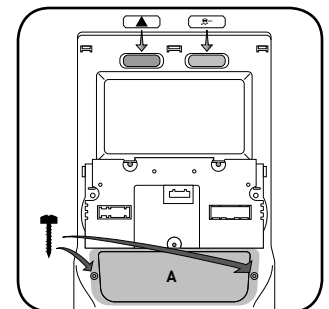

Fig. 7.0
7. Insert the hazard and traction control buttons in the holes in the top of the dash kit. (Fig. 7.0)
8. Insert and fix the storage pocket at the bottom of the dash panel, using provided screws. (Fig. 7.0 (A))